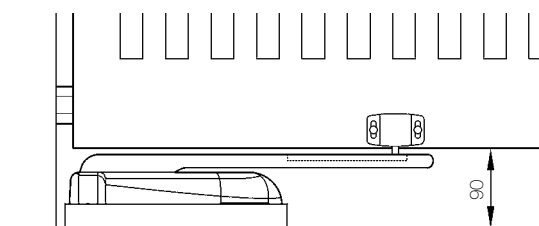
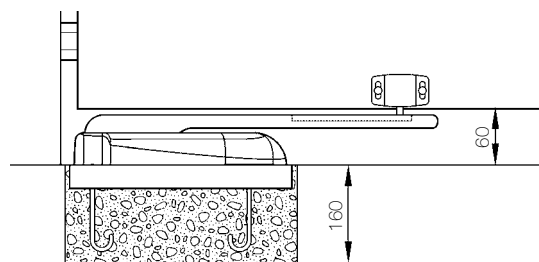

Figure 10
Figure 11
- Check the size limits referring to Figure 10, Figure 11, Figure 12 and according to the type of installation: with gearmotor installed underground or surface mounted.